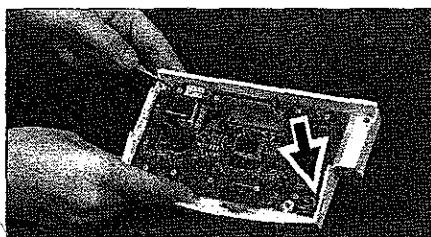

Figure 24
3. Remove the four assembly screws which attach the display PCB/LCD assembly to the bezel top. Separate the display PCB/LCD assembly from the bezel top by gently pulling up on the display PCB corners as illustrated in Figure 24.